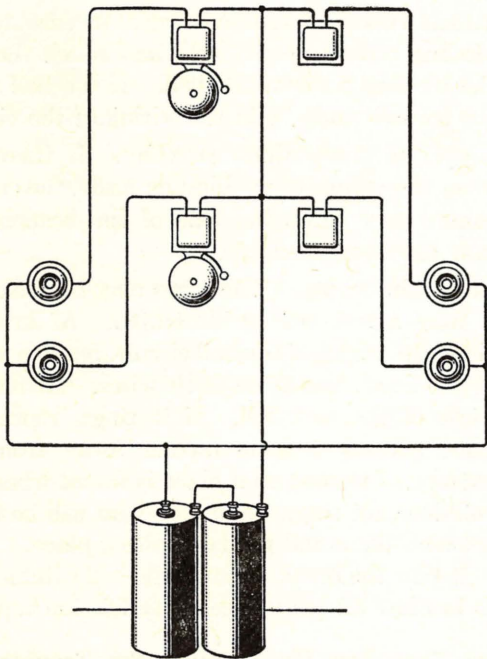

Fig. 352—A wiring diagram for the front and rear doors of a two family apartment house
1. Wire up the circuit as shown in Fig. 352. Notice that it is necessary to make several branch taps in the circuit. Consult the job on electrical splices if further information is needed.